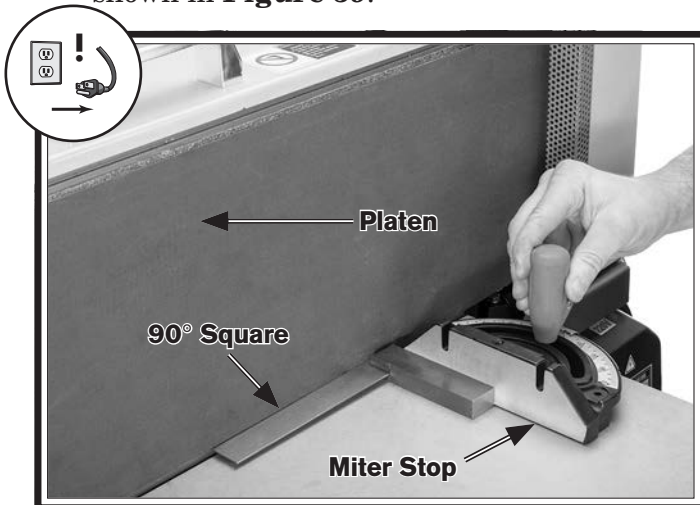

Figure 59. Square positioned to miter angle.
3. Set one edge of 90° square against miter stop and other edge against face of platen, as shown in **Figure 59**.